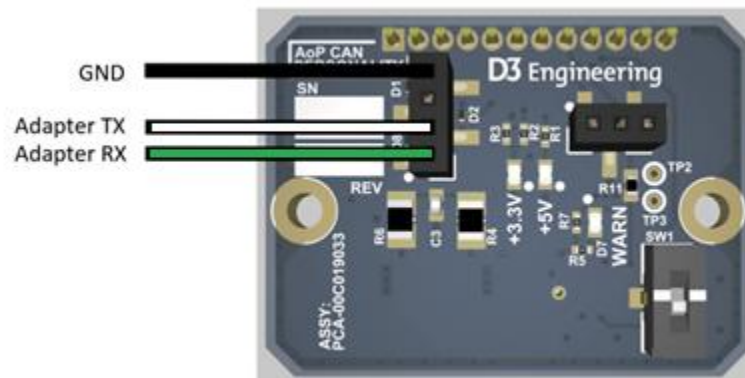

Figure 19. AOP Sensor USB to UART Connection – Rev 1.2 and Earlier
1. Connect the Prolific USB to 3.3 V UART adapter as shown in Figure 19.